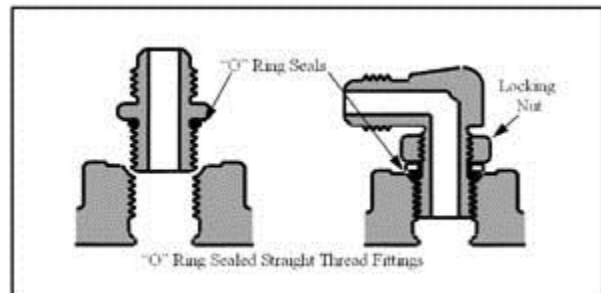
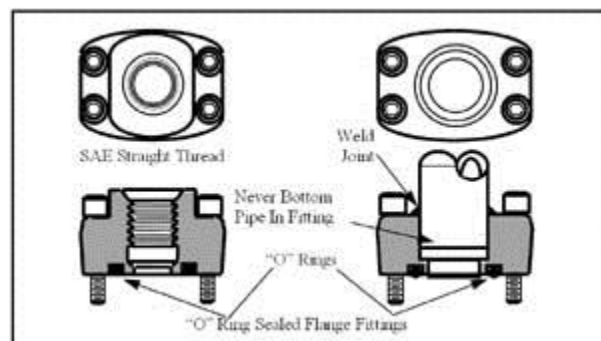

Fig. 3-6. O-ring sealed straight-thread fittings
Fig. 3-7. Two types of O-ring sealed flange fittings
*The recommended plumbing material is steel tubing with straight-thread O-ring fittings up to 2-in. OD, **Figure 3-6**. In sizes larger than 2 in., use steel pipe with welded SAE O-ring-sealed flange fittings on each end, **Figure 3-7**. For flexible connections, reinforced rubber hose is most common; however, some prefer sealed steel swivel joints.*